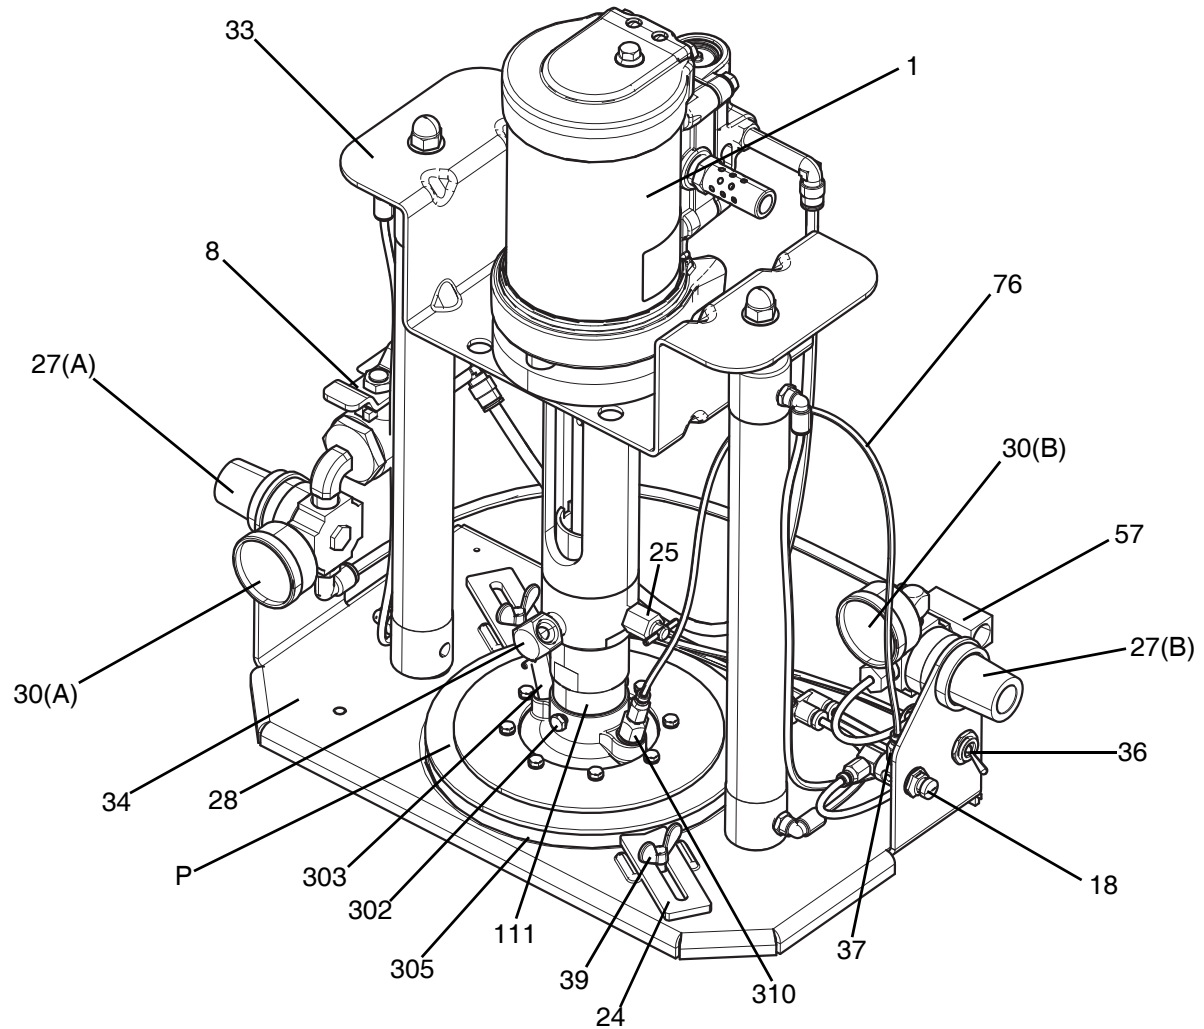

FIG. 1: System Components
NOTE: Reference numbers and letters in parentheses in the text refer to the callouts in Figure 1 on page 7 and the parts drawings. Refer to those for installation.
2. Read the section **Pump Components and Accessories** on page 9. Connect an air supply hose to the 1/4 npt(f) main air inlet fitting (57). See Figure 1 on page 7. Refer to **Connect and Disconnect Tubes** on page 9.
The following components are supplied with the pump (see Figure 1 on page 7).
NOTE: Reference numbers and letters in parentheses in the text refer to the callouts in Figure 1 on page 7 and the parts drawings. Refer to those for operation.